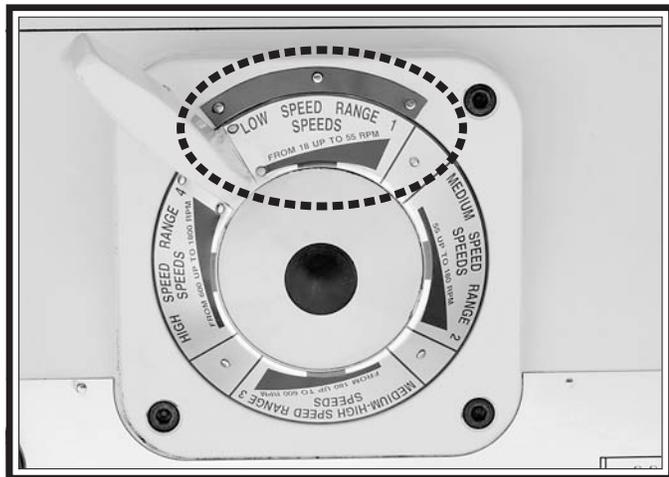

Figure 26. Spindle speed range lever.
7. Move the spindle speed range lever to the low speed range 1 (18-55 RPM), as shown in **Figure 26**.